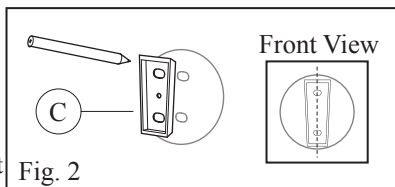

Fig. 2
2. Hold assembled item up against desired position on wall, and outline the back plates of end pieces with a pencil. Use a measuring tape and a level for accuracy. (Fig. 2)